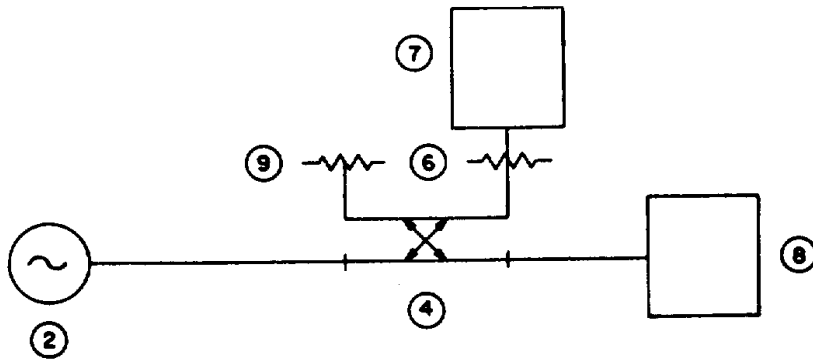

Figure 3c.
4. Replace the standard power meter with the Model 42BD (8). (See Figure 3c.) With generator (2) set at the same frequency as in Step 1, adjust the generator output level until the Model 42 (7) reads the same value as recorded in Step 3. Record the indicated power reading on the Model 42BD (8) as P_{ind_2}